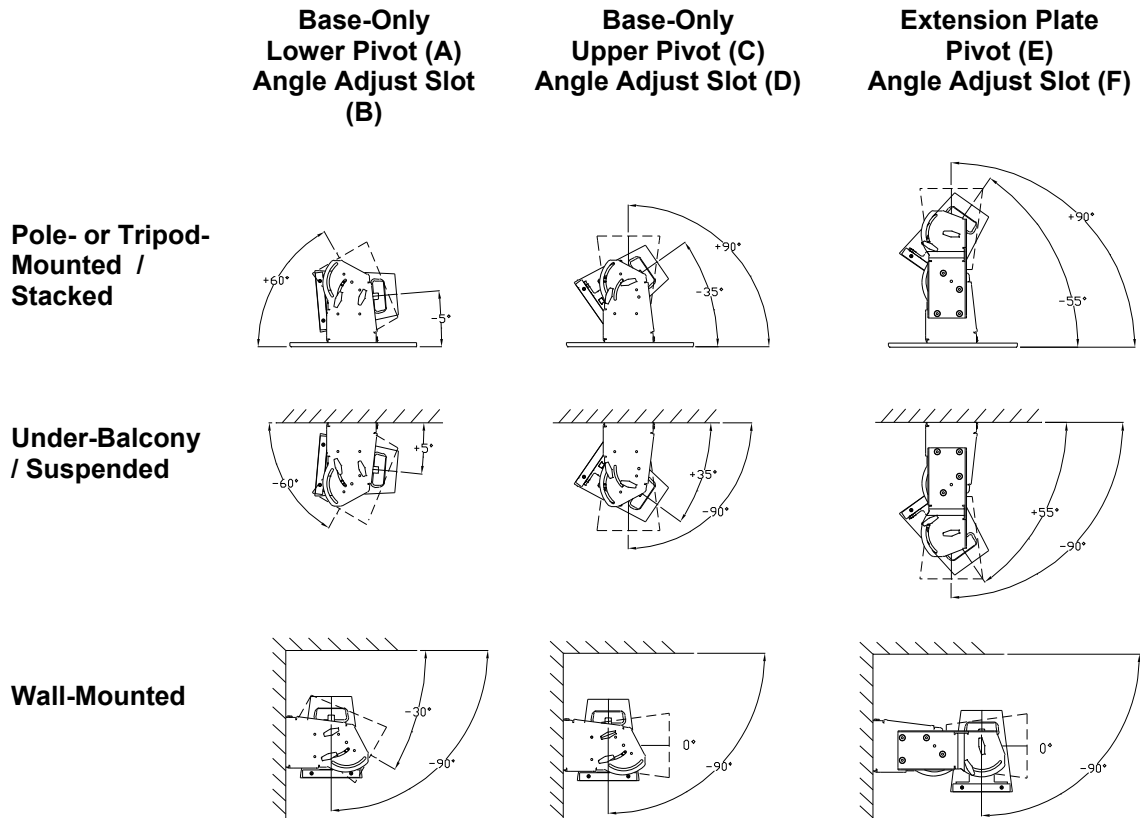

Figure 12: Maximum and Minimum Tilt Angles - Illustrated
Speaker Attachment Adapter Plates mount to the Universal Bracket using the supplied handles (2 per side). The pivot point on the Speaker Attachment Adapter Plate attaches to the A (lower) or C (upper) pivot attachment points on the Universal Bracket (no side extension plates) or pivot attachment point E when side extension plates are used. Three hole positions are available on the Speaker Attachment Adapter Plate that align with angle adjustment slots on the Universal Bracket Base (B or D) or Side Extension Plates (F). The range of tilt adjustment for various attachment options is summarized in Tables 1 and illustrated in Figure 12.